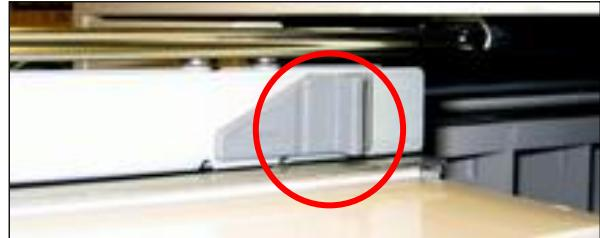

Figure 65. Slide extension stop.
**Step 2.** Locate the rubber **slide extension stop** (Figure 65) on the top of the drawer and pull the slide extension stop forward to release the upper slide. Push the upper slide back into the cabinet, tilt the drawer upwards and slide it out of the cabinet.